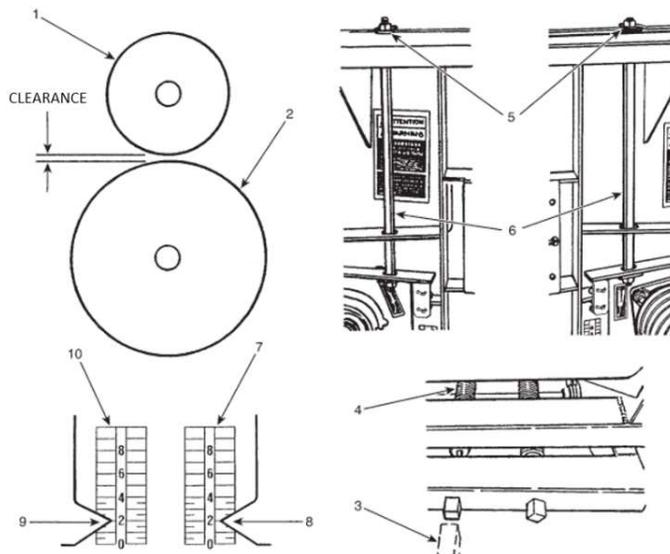

Figure 84 Processor roll clearance and pressure
Refer to FIGURE 84.
The universal joint flanges are equipped with a grease Zerk (item 2, FIGURE 84) to prevent seizing of the shaft to the flange if the shear bolt breaks. When the cutter head shear bolt fails, the feed rolls keep turning and the *FerroDtec* controller will automatically make an emergency stop (for models equipped with the detector).